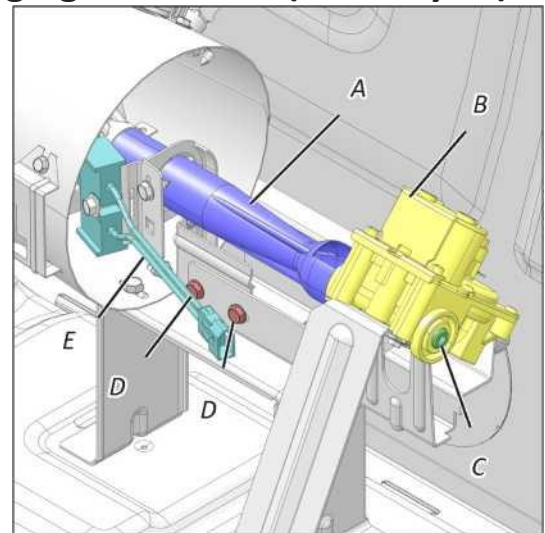

Figure 1 - Gas Valve on the Right Side
1. Remove the two (2) screws securing the burner tube to the burner base. Refer figure 1 and figure 2 below.